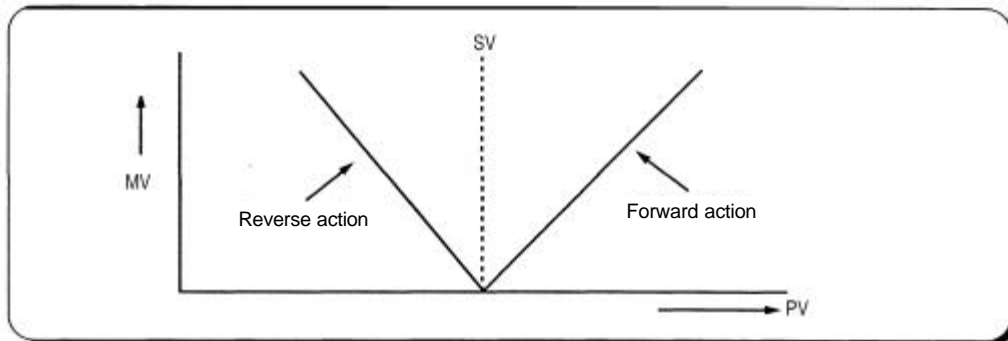

Fig. 15.9 MV of forward / reverse action
- 2) A diagram is which forward and reverse actions are drawn using MV, PV, and SV is shown as figure 15.9.